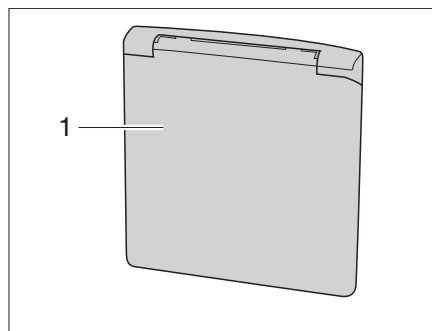

Fig. 4 Flap for 230 V connection
- Opening:** ■ Grip the external flap (Fig. 4,1) at the bottom and lift it upwards.